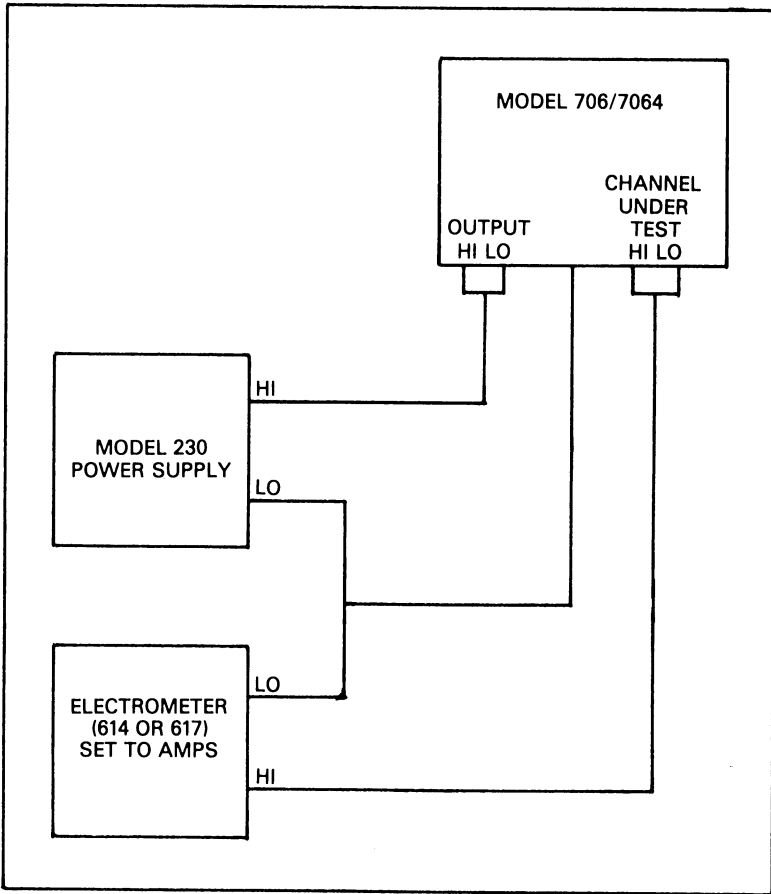

Figure 3-4. Configuration for Channel Isolation
1. This test measures the leakage resistance between two channels on the card. During the test one channel is open and the other is closed. Set up the test configuration shown in Figure 3-4.